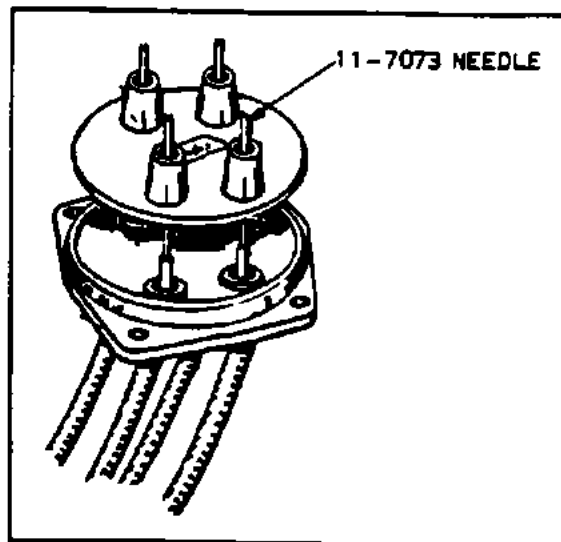
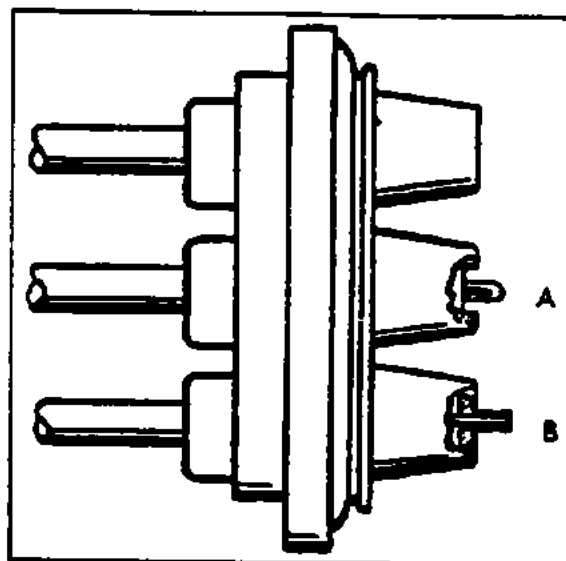

Figure 8-24. Installing Grommet Over Lead Assemblies
Figure 8-26. Wire Doubled Over For Installation of Eyelet
met and over stripped end of wire. (Refer to Figure 8-24.) Slide grommet down needle until it seats tightly against the tapered ferrule.
14. Cut wire $\frac{3}{8}$ inch from top of grommet outlet. (See Figure 8-24.) Double wire over as shown in A of Figure 8-26. Slide eyelet over doubled wire until it is firmly seated in recess of grommet outlet.
15. Using the "AB" groove of Scintilla 11-4152 Crimping Tool, or equivalent, crimp eyelet to wire. Approximately 1/32" of wire should extend from end of eyelet after crimping. See B of Figure 8-26.